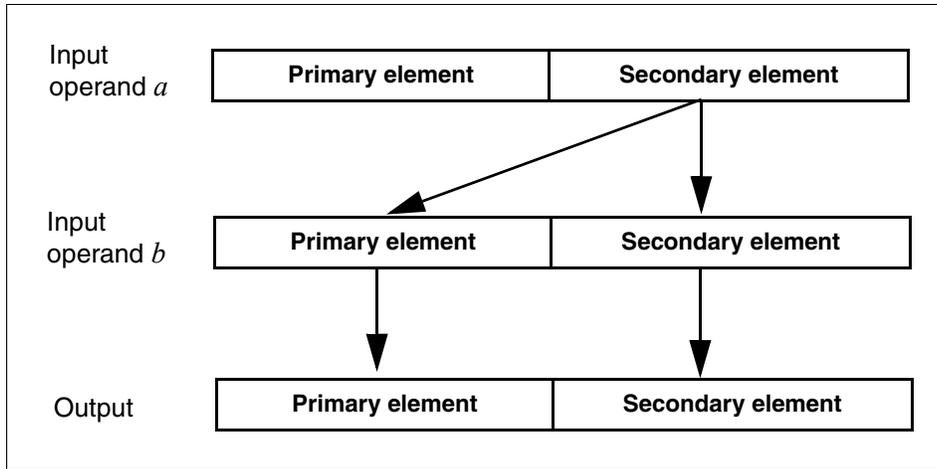

Figure 4-4 Copy-secondary operations
*Copy-secondary operations* perform SIMD computation between the corresponding primary and secondary elements of two input operands, where the secondary element of the first operand is replicated to the primary element. As an example, Figure 4-4 illustrates how a cross-secondary multiply operation is performed.